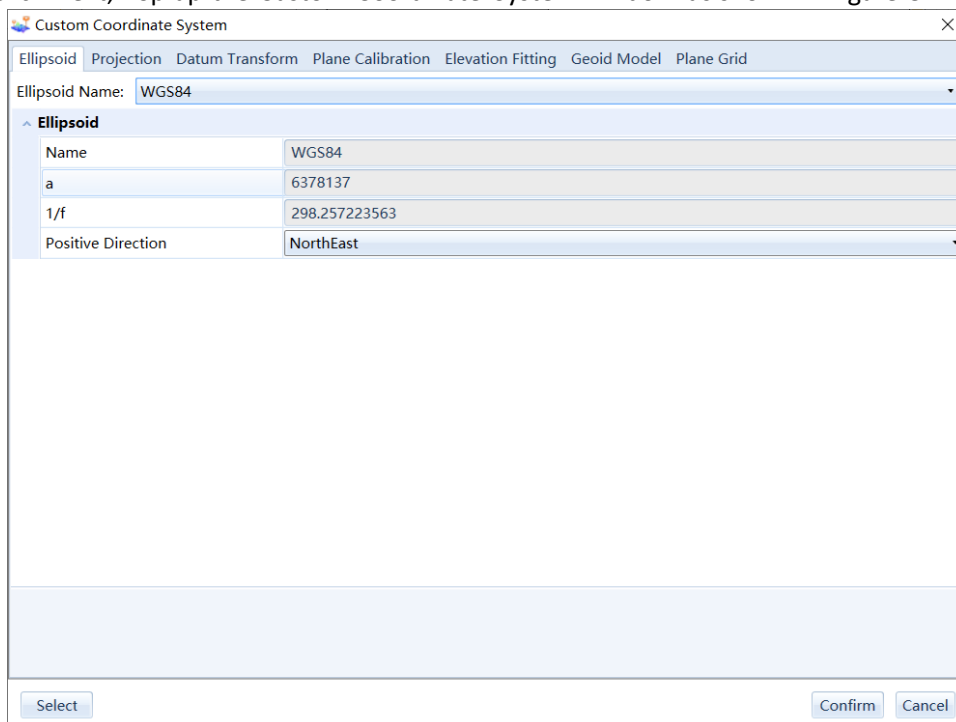

Figure 32
- Click Next, Pop up the Custom Coordinate System window as shown in figure 32